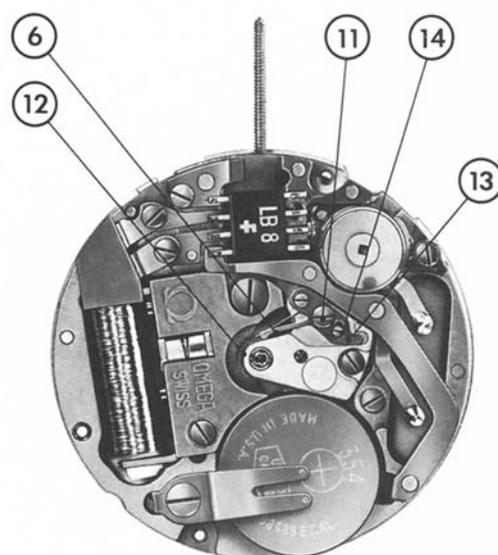

Fig. 4.3
3.42. Slightly unscrew the screw No. 2564 (point 11, fig. 4.3.) for retaining click plate.